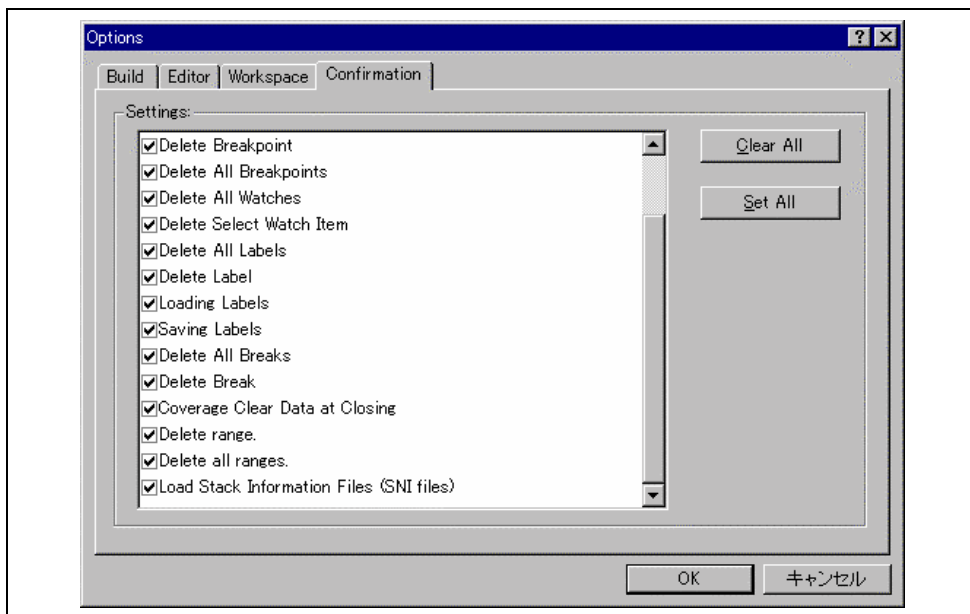

Figure 4.51 Options Dialog Box
- The [Load Stack Information Files (SNI files)] check box is checked in the [Confirmation] sheet of the [Options] dialog box (figure 4.51) that can be opened by choosing [Tools->Options] from the main menu.